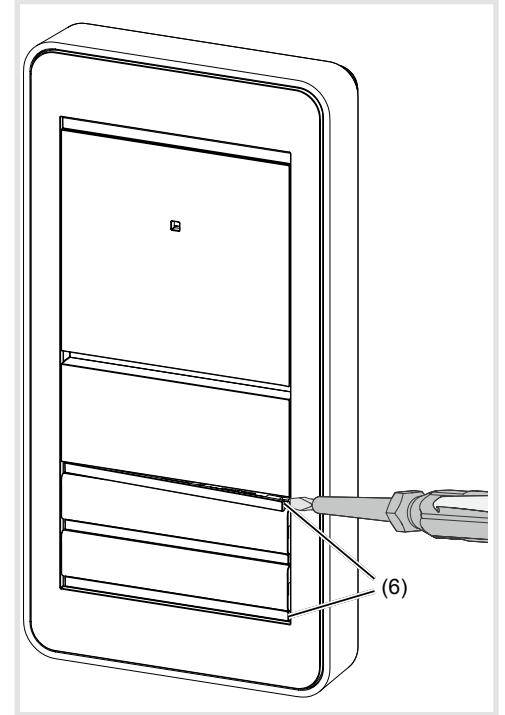

Figure 15: Removing cover strips
- Lever open the top and bottom of the cover strips (6) and remove them (figure 15).